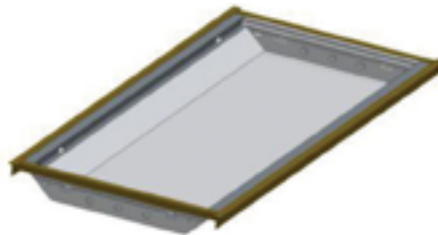

Fig. 1-2
- 4.) Repeat above step for the other side of the fixture. (Fig. 1-2)